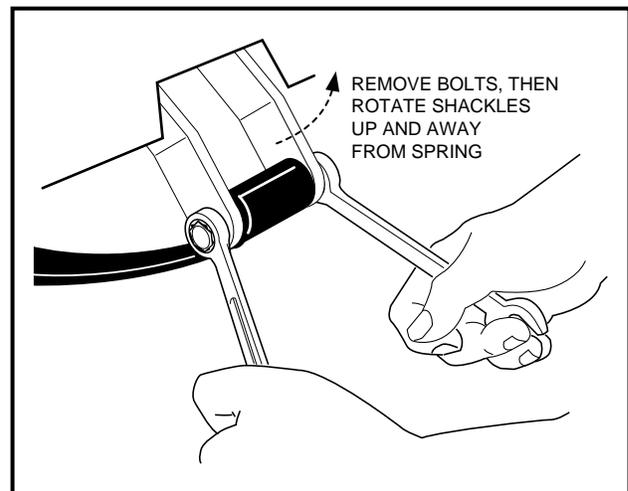

Figure 16-11 Shackles
6. With a floor jack supporting the transaxle, remove lower spring shackle nuts and bolts. Position shackles so they are clear of springs (**Figure 16-11**).